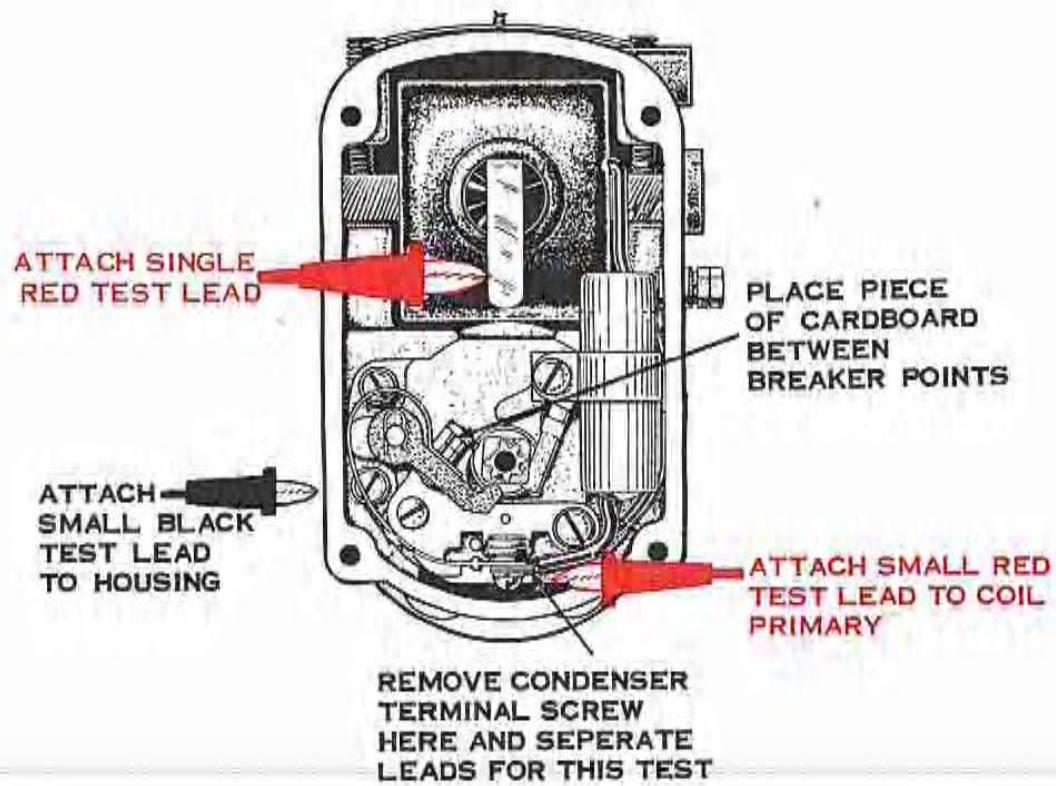

Figure 5
On Fairbanks-Morse and similar Magnetos, it is necessary to remove the distributor cap and end cap so **single red test lead** can be attached to secondary terminal of coil "see Fig. 5". **Small red test lead** is attached to coil primary lead after the lead has been removed from breaker point terminal. The small black test lead is attached to housing "see Fig. 5".
**NOTE:** On Fairbanks-Morse and similar type magnetos, the coil primary lead must be removed from breaker point terminal during this test. This also applies to all coils which are permanently grounded to laminations. See Figure 5.